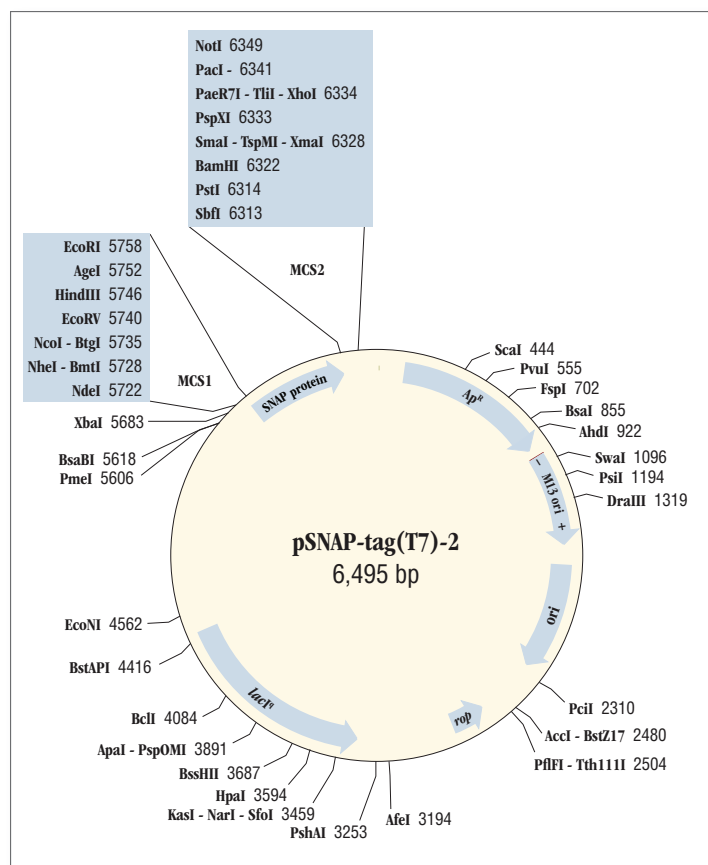

Figure 1: pSNAP-tag(T7)-2 vector map
*Escherichia coli* (*E. coli*) is the leading host for expression of proteins, primarily due to its ease of use. SNAP-tag technology provides biologists with a versatile tool for expression and labeling of proteins in order to characterize their functions and interactions (1–3). New England Biolabs has introduced the pSNAP-tag (T7)-2 vector which allows a protein of interest to be fused to the N-terminus or C-terminus of an *E. coli* codon optimized SNAP-tag (Figure 1). The expression of SNAP-tagged fusion proteins are under the control of the IPTG-inducible T7/*lac* promoter and can be efficiently expressed using an *E. coli* T7 expression strain of your choice (4). Using this highly flexible system, a single gene construct creates a fusion protein that can be covalently labeled with a fluorophore of your choice, biotin or beads for fluorescent imaging, pull-down or other biochemical analysis (5,6).